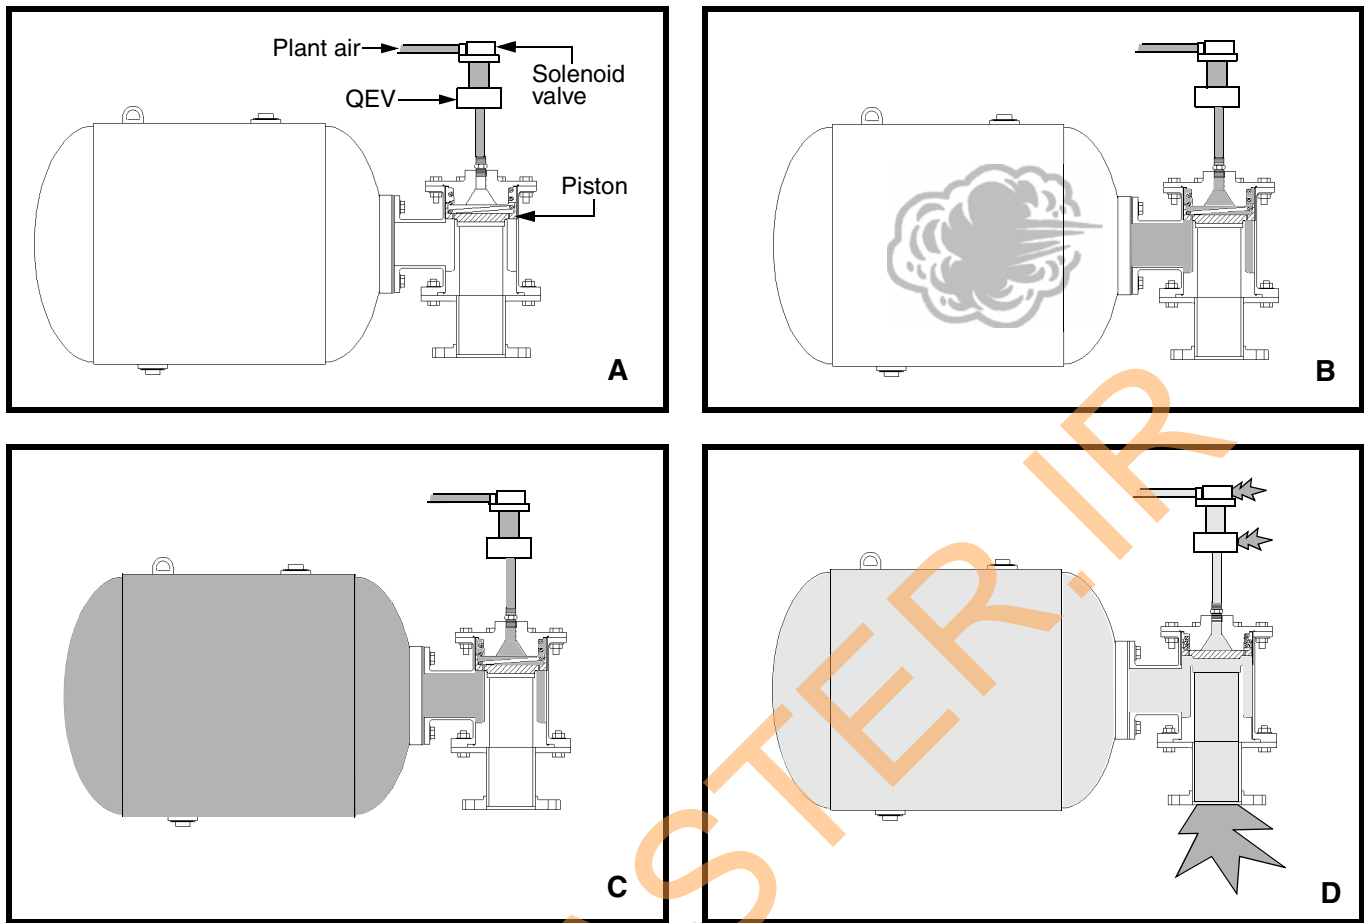

Figure 2. Air Cannon Charging and Discharging
The Martin® XHV Air Cannon System consists of one or more air cannons mounted on a storage vessel. The air cannon charges when the tank is filled with plant compressed air or nitrogen between 40 psi (2.76 bar) and 120 psi (8.27 bar) (A, Figure 2) that is controlled by a 3-way normally open solenoid valve. Air fed through the valve body-mounted quick exhaust valve (QEV) passes through the piston and into the tank (B). When tank pressure equals line pressure, airflow is static and the cannon is ready to discharge (C). By activating the solenoid valve, the air supply is shut off and the air line between the QEV and solenoid is emptied. This allows the QEV to quickly release the pressure holding the piston. The piston is instantly forced back by the pressure stored in the tank which then exits through the discharge pipe, releasing the energized air pressure stored in the tank. This blast of air is directed through the discharge pipe and into the storage vessel (D).